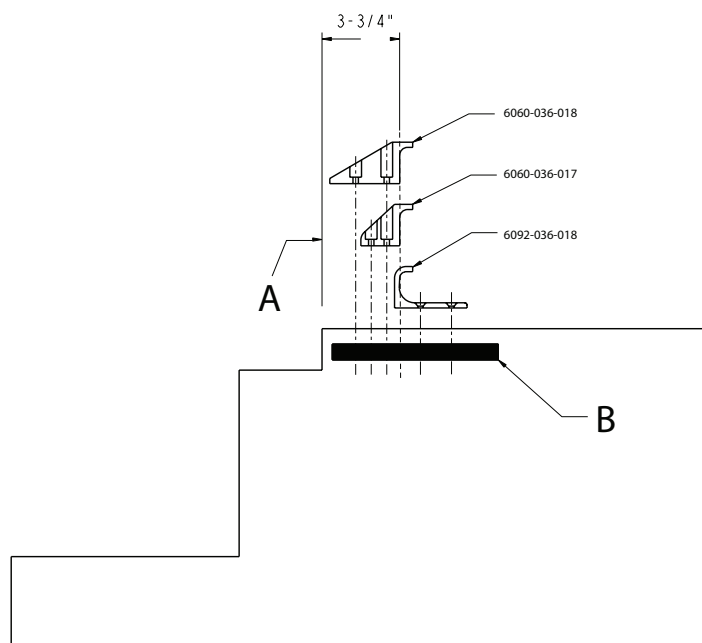

Figure 6 – Vehicle safety hook placement
2. Position the vehicle safety hook at least 3-3/4 in. from the leading edge of the door sill (A) (Figure 6). The recommended distance from the face of the safety hook is no less than 3-3/4 in.